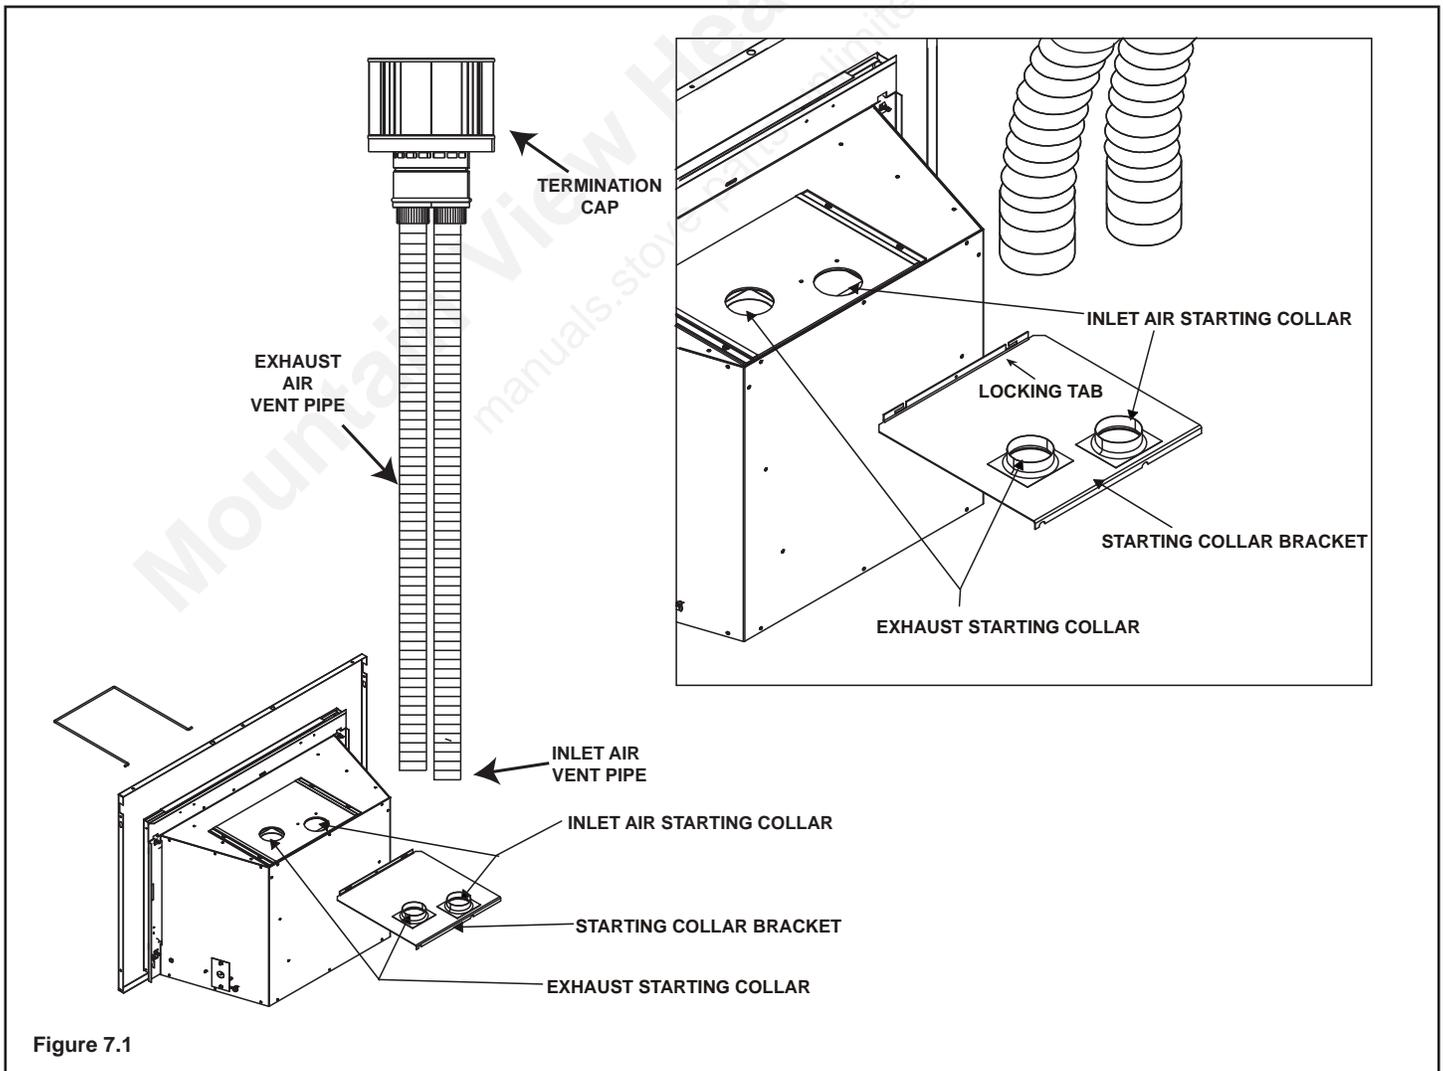

Figure 7.1
- Use three screws to secure the exhaust flexible vent pipe to the exhaust starting collar on top of appliance with three screws (see Figure 7.1).
- Use 3 screws to attach either a 4 foot or 30 foot section of inlet air vent to the inlet collar on the collar slide plate (see Figure 7.1).
- Secure collar slide plate to appliance by placing locking handle into position with locking tabs (see Figure 7.1) and secure with #8 screw.